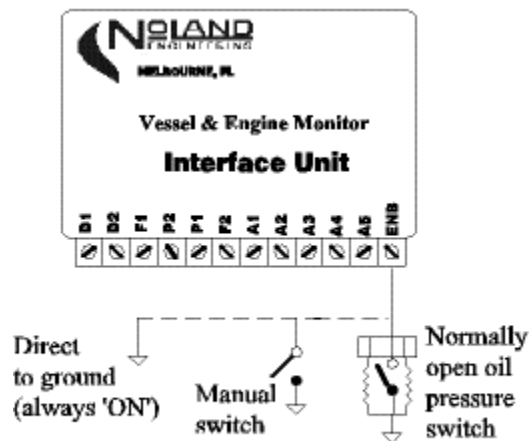

Figure 7. Alternative “ENB” hookups
- Figure 7 – Alternative “ENB” Hookups
ENB. The ENABLe connection is used to start/stop the Vessel/Engine Monitor function in the VS52(U). When the “ENB” terminal is grounded, the Vessel/Engine Monitor will begin sending the data. If left open or set above 2V, the Vessel/Engine Monitor will cease operation even though the multiplexing function of the VS52(U) continues. If desired, the user may tie this connection permanently to ground, or connect it to ground through a switch to enable/disable operation manually. Another alternative is to use an automatic switch, such as a normally-open engine oil pressure switch. In this way the Vessel/Engine Monitor only operates while the engine is running. (See Figure 7).